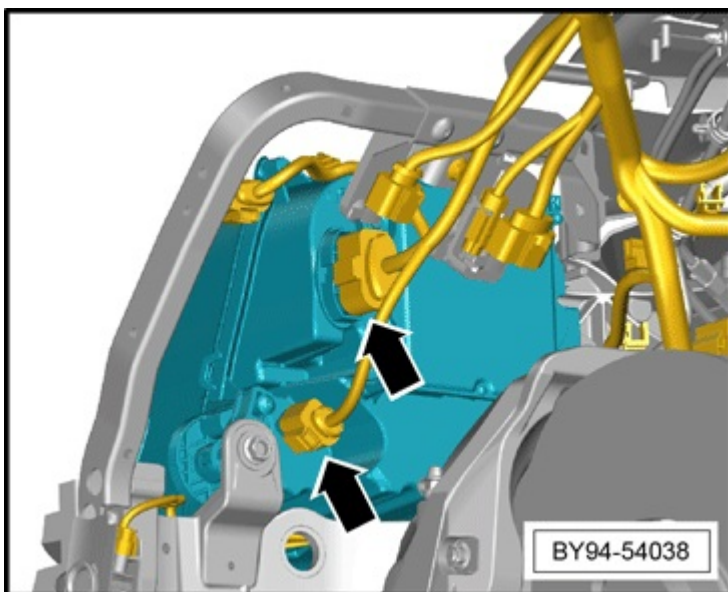

Figure 1
- 2) Referring to Figure 1 - Disconnect the applicable headlamp plugs (right and/or left hand side) - During disconnection look out for any abnormalities for example a plug which is loose/broken or can easily be disconnected